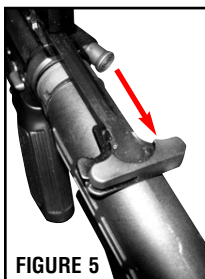
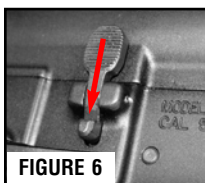

FIGURE 5
FIGURE 6
- Pull the charging handle all the way back (Figure 5), press and hold the lower portion of the bolt catch down (Figure 6) while you release pressure on the charging handle. This will lock the bolt in the open position. Return charging handle fully forward until it locks and remove finger from bolt catch.